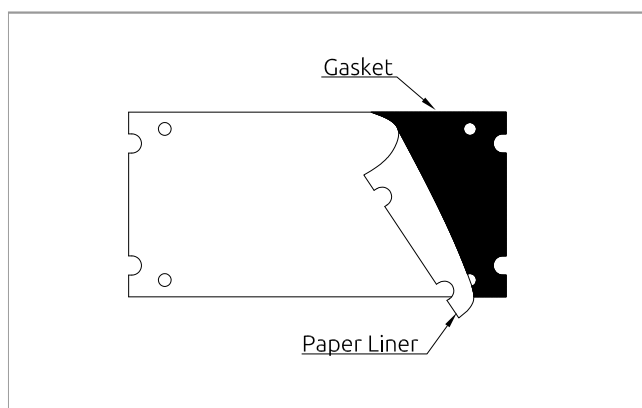

Figure 8.2. Water resistant gasket
1. Gasket will be provided as shown in Figure 8.2